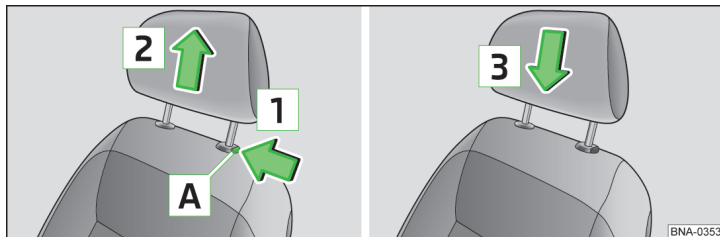

Fig. 44 Removing/installing the headrest
- › Press locking button **A** in the direction of arrow **1**, and pull out the head restraint in the direction of arrow **2** » fig. 44.